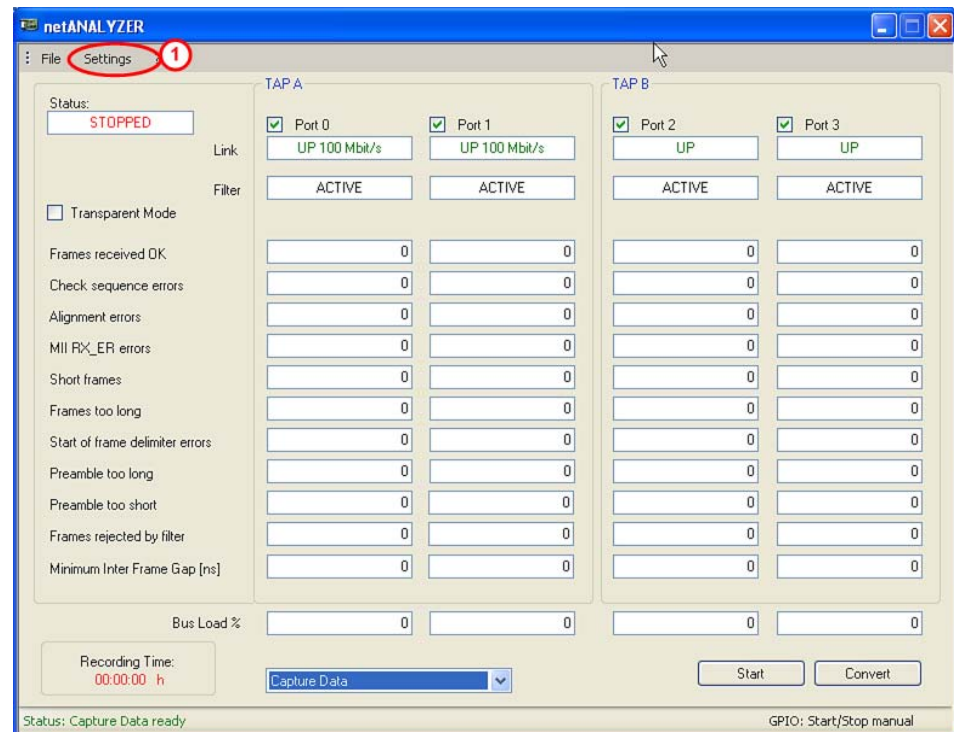

Figure 1: netANALYZER Main Window
- Select **Settings > File Settings** ① (see Figure 1).